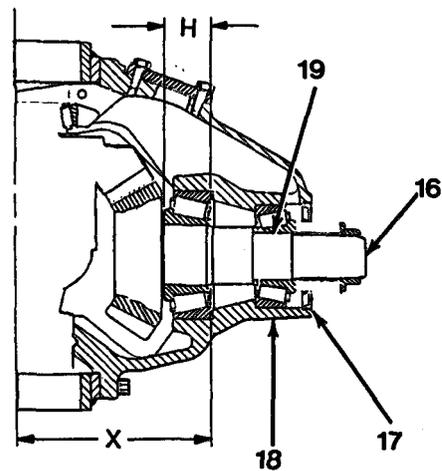

Figure 12-5
6. Remove pinion (16, Figure 12-5). Remove input yoke seal (17), bearing cone (18) and shim (19).
- e. Divide S by 2 and add to the value obtained by measuring from bearing carrier shoulder to bearing cap mounting surface of carrier housing (22, Figure 12-6) and the result is distance (X, Figure 12-5).
- f. Measure total thickness (H) of bearing behind head of pinion.
- g. Note value of “corrected tapered distance” marked on pinion (16).
- h. Calculate $Y = \text{thickness (H) of bearing (19) + “corrected tapered distance.”}$